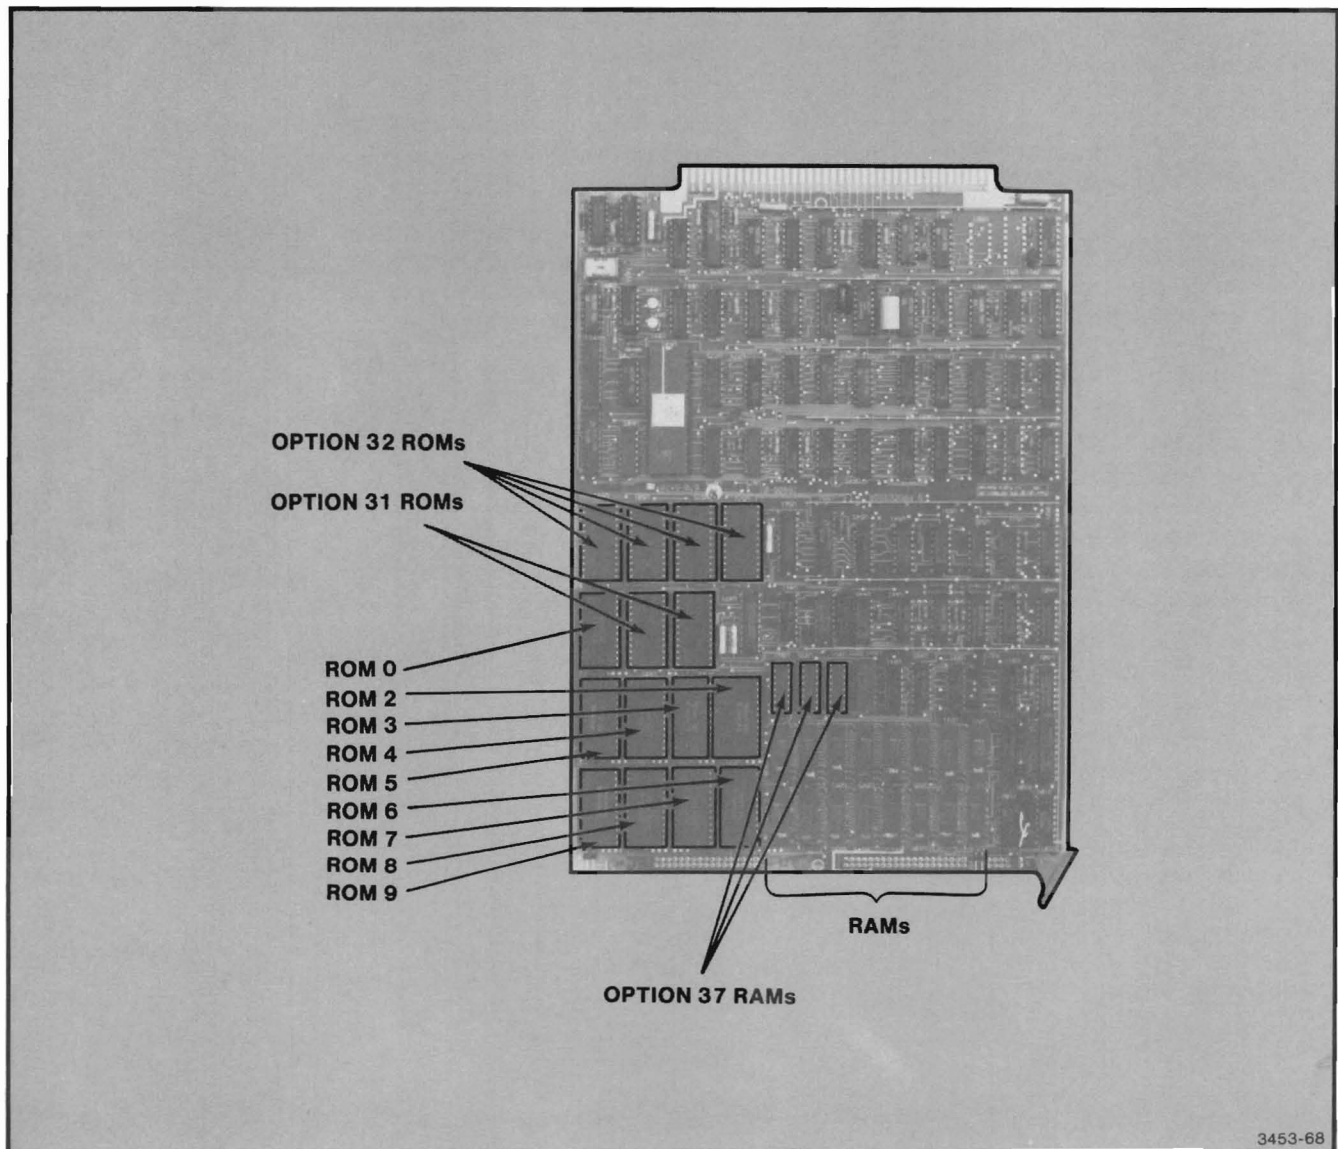

Figure A-6. Processor Circuit Card Standard and Option ROM/RAM Locations.
7. Option 31 consists of two ROM/EROMs. The 160-0185-01 ROM/EROM goes in socket U481 and the 160-0395-01 ROM/EROM goes in socket U475. Be sure to note the proper orientation of the component with reference to Pin 1 of the socket (see Figure A-6).
7. Option 32 consists of four EPROMs and is installed on the Processor circuit card as follows (see Figure A-6):